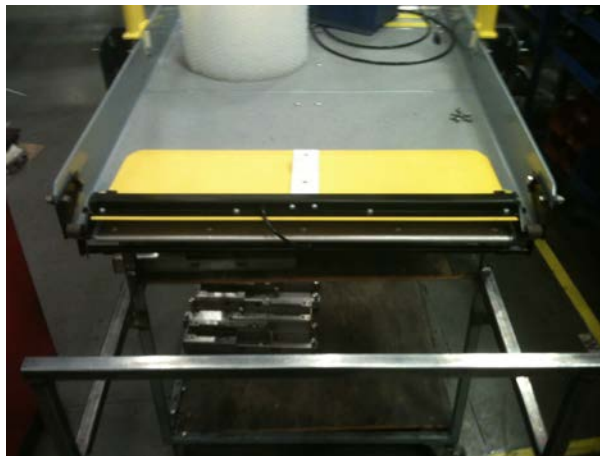

FIGURE 2-11. BRIDGEPLATE IN CLOSED POSITION
- 2) Refer to **Figure 2-11**. Fold bridgeplate onto platform to perform adjustment.